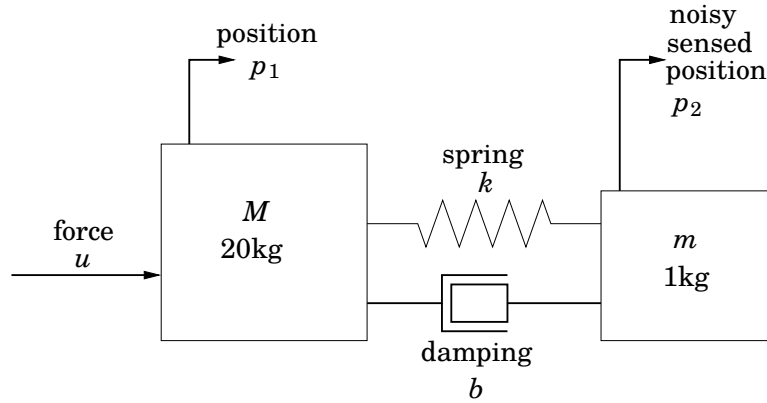

Figure 11.3 Mass spring system in Problem 11.2.
Let us consider the physical system shown in Figure 11.3, showing two masses, lightly coupled through a spring with spring constant k and damping b . The only sensor signal we have is the noisy measurement $p_2 + n$ of the position, p_2 , for the small mass, m . The purpose of the controller is to make the position of the large mass, p_1 , follow a reference input, r , such that the control error e becomes small. This is in turn weighted against controller effort in a quadratic cost function (the objective)
12.2 In Problem 11.2 we considered the mass spring system in Figure 11.3. If you haven't done that Problem or don't remember it, you should go through it before attempting this problem.